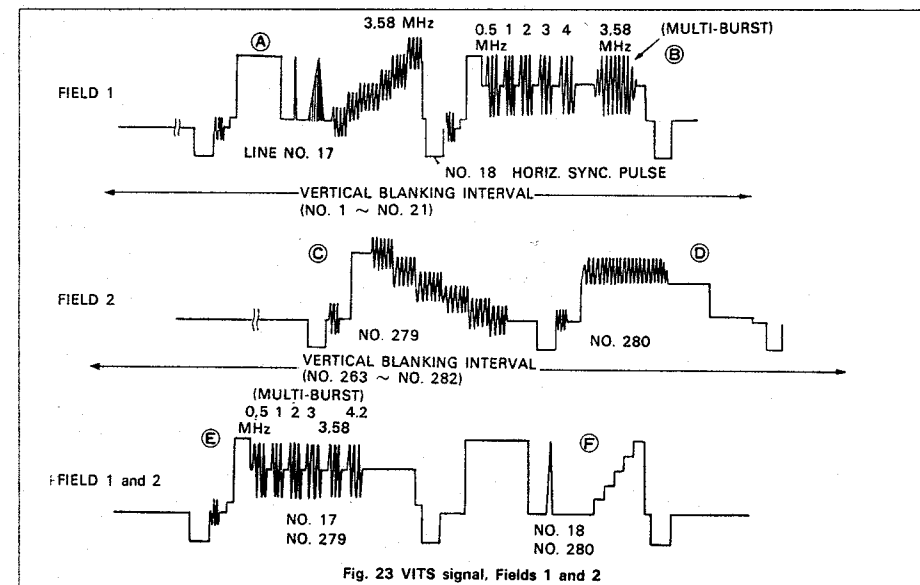

Fig. 23 VITS signal, Fields 1 and 2
Many of the television servicing procedures can be performed using single-trace operation. These are outlined later in the applications section covering single-trace operations. One of these procedures, viewing the VITS (vertical interval test signal), can be accomplished much more effectively using a dual-trace oscilloscope. As outlined in the single-trace applications section and as shown in Fig. 23, the information on the Field 1 and Field 2 vertical blanking interval pulse is different. This is shown in detail in Fig. 23. Also, because the oscilloscope sweep is synchronized to the vertical blanking interval waveform, the Field 1 and Field 2 waveforms are superimposed onto each other.
The transmitted VITS is precision sequence of a specific frequencies, amplitudes and waveshapes as shown in Fig. 23.
The first frame of VITS at the "B" section (line 18) in Fig.23 begins with a white reference signal, followed by sine wave frequencies of 0.5 MHz, 1.0 MHz, 2 MHz, 3 MHz, 4.0 MHz and 3.58 MHz. This sequence of frequencies is called the "multi-burst".
9. Set the SWEEP TIME/DIV control to the 0.1 ms/div position. This expands the display by increasing the sweep speed. The VITS information will appear toward the right hand portion of the expanded waveform displays. The waveform information on each trace may appear as shown in Fig. 23. Because there is no provision for synchronizing the oscilloscope display to either of the two fields which comprise a complete vertical frame, it cannot be predicted which field display will appear on the CH1 or CH2 display.
10. With the delay sweep applied (see page 13), adjust VITS signals as shown in Fig. 23.